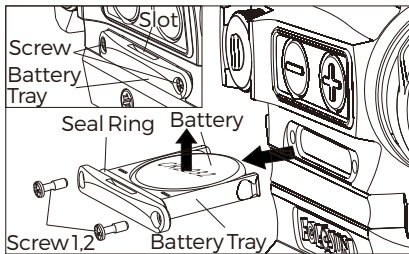

Fig 4-1
- 1) Remove the battery: (Fig 4-1)